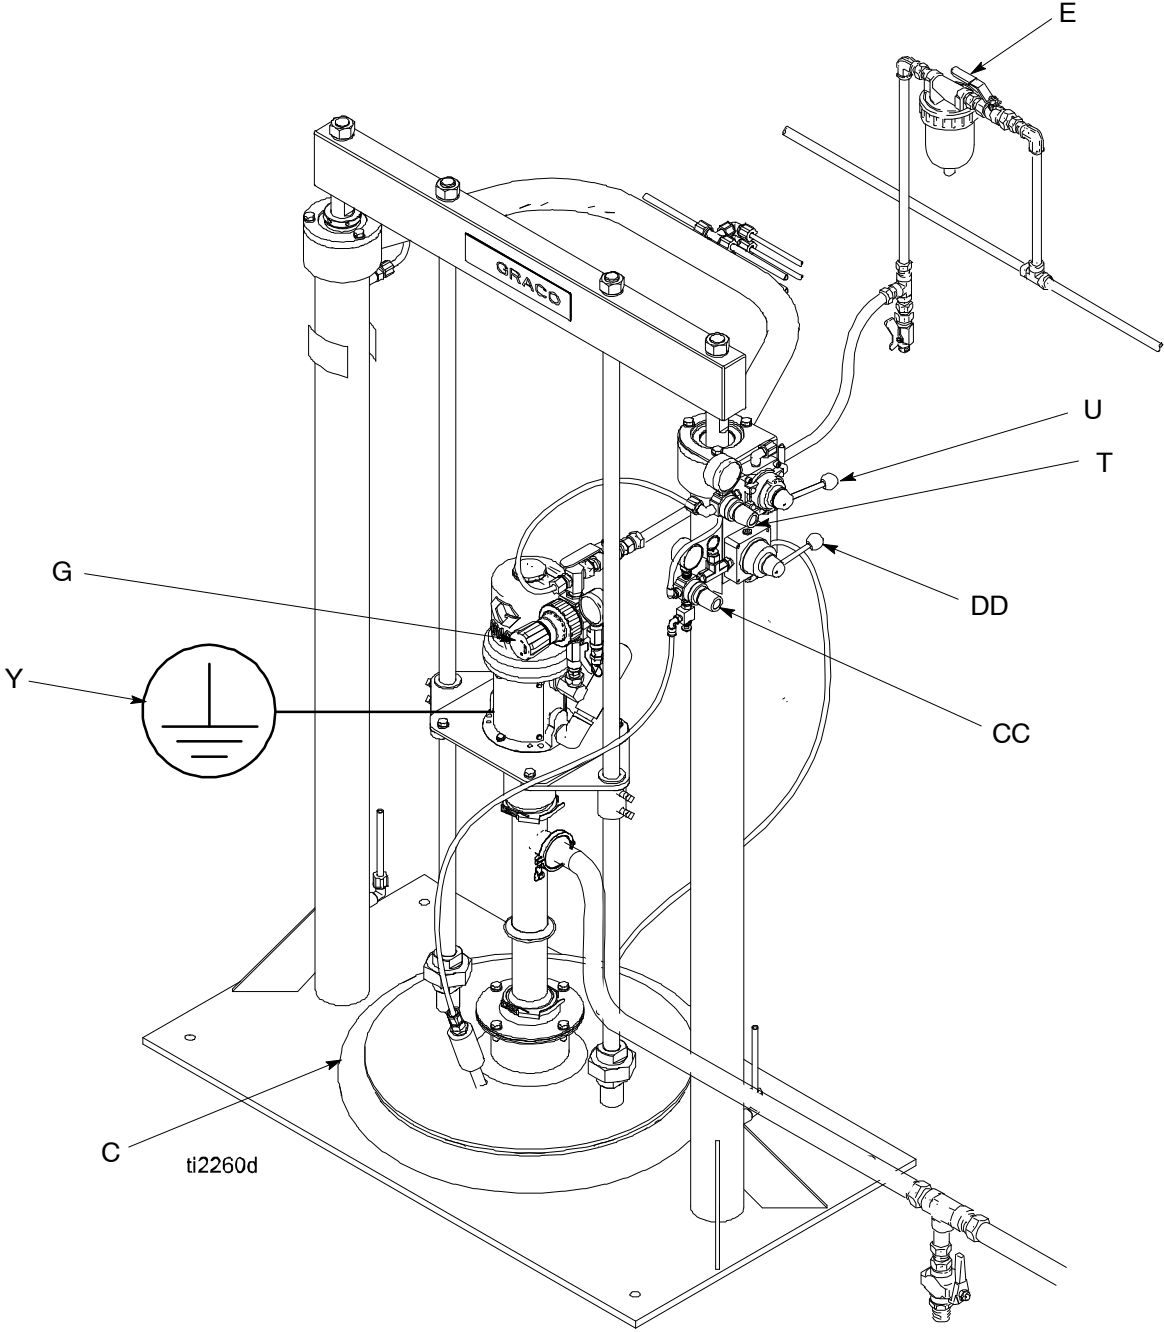

Fig. 4
1. See Fig. 4. Close all air regulators and air valves.
2. Open the main air bleed valve (E), and set the ram air regulator (T) to 2.8 bar, 0.26 MPa (40 psi). Pull up on the director valve (U) handle so the arrow points to RAM UP, and let the ram raise to its full height.
3. Set a full drum of fluid on the ram base, slide it back against the tube stop, and center it under the ram plate (C).
1. Be sure the pump air regulator (G) is closed. Set the ram air regulator (T) to about 3.5 bar, 0.35 MPa (50 psi). Set the director valve (U) to RAM DOWN. See Fig. 4.
3. Keep the director valve (U) set to RAM DOWN while the pump is operating.